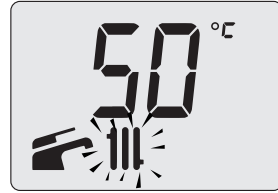

Fig. 2.9
- The heating flow "set" temperature and the symbol  flash. The background of the display is illuminated (Fig. 2.9).